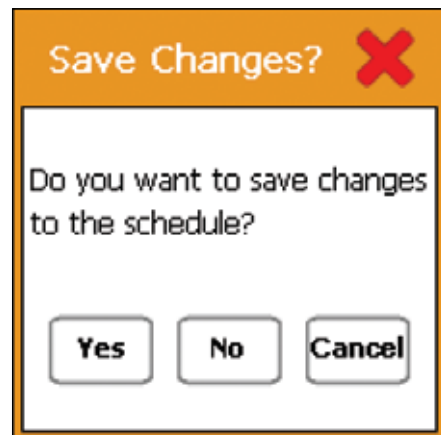

Figure 4-11: Confirmation to save changes.
7. Once all programs have been entered into the schedule editor, touch the 'Exit' button. A pop-up window will appear to confirm saving the schedule. (Figure 4-11)